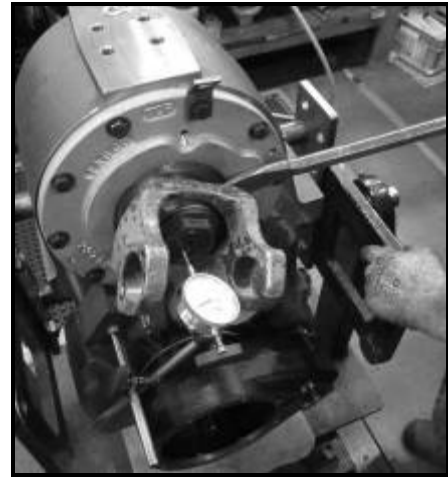

Figure 99
8. Rotate transfer case such that the shafts are horizontal. Mount a dial indicator on the shaft as shown in **Figure 99**.